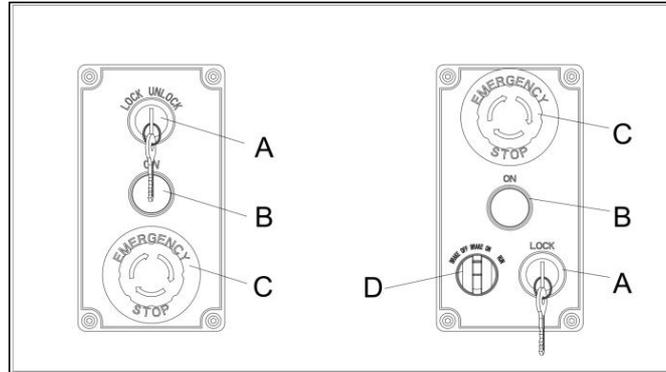

Fig. 17
Refer to figure 17.
7.1.2 brake motor Refer to figure 17.